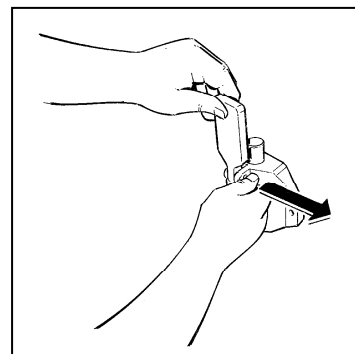
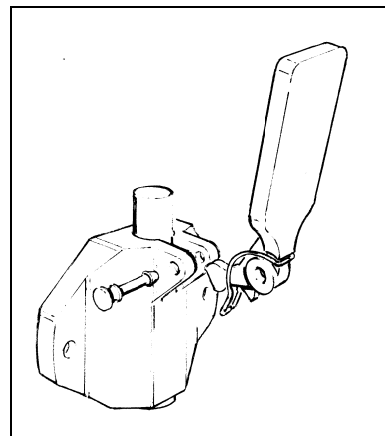

Fig. 18
Fig. 19
- Dismantle the tap from the flange by removing the fixing pin (fig. 18) so that you can remove the lever and its spring and release the piston from its housing (fig. 19).